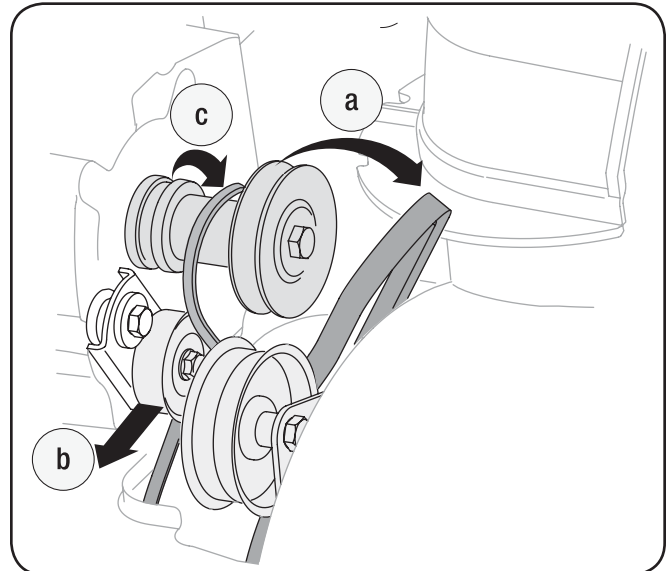

Figure 7-6
- Remove the belt as follows (See Fig. 7-6):